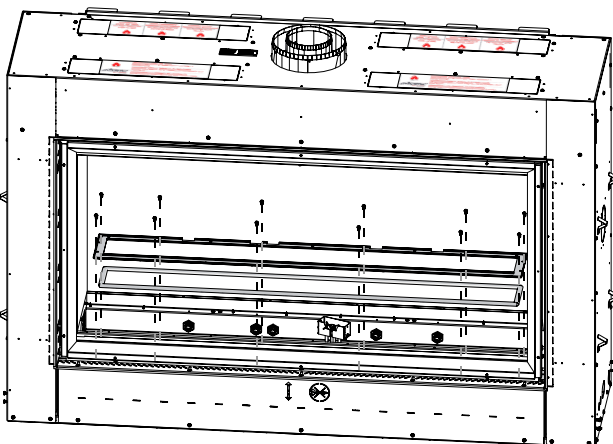

Fig. 2
5. Remove the ember bed bracket and glass by removing the securing screws and lifting from the appliance (**Fig. 2**).